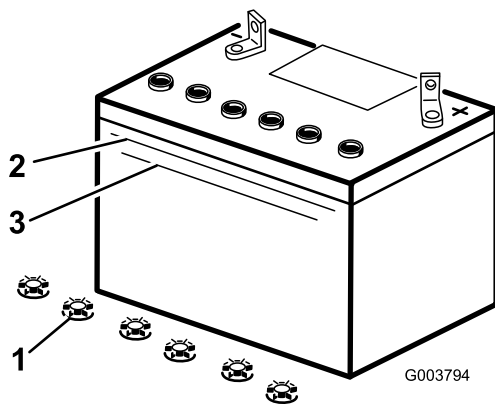

Figure 38
2. Look at the side of the battery. The electrolyte must be up to the Upper line (Figure 38). Do not allow the electrolyte to fall below the Lower line (Figure 38).
3. Remove the filler caps from the battery (Figure 38).
4. Slowly pour distilled water into each battery cell until the electrolyte level is up to the Upper line (Figure 38) on the battery case.
level is up to the Upper line (Figure 38) on the battery case.